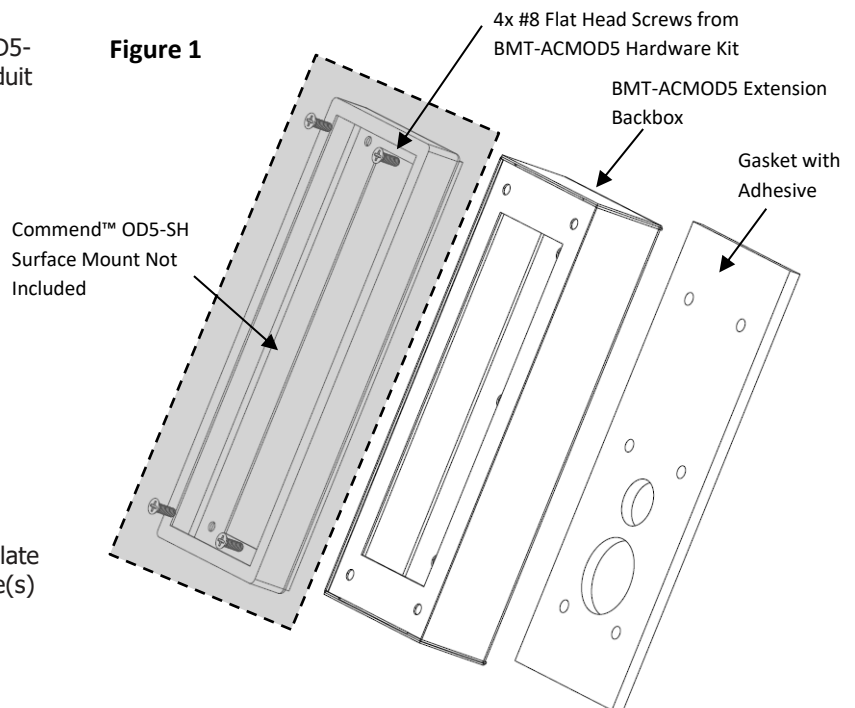

Figure 1 - BMT-ACMOD5 shown with OD5-SH
2. Hold mount up to installation side and use as a template to mark mounting hole locations and cable entry hole(s) (see Figure 1).